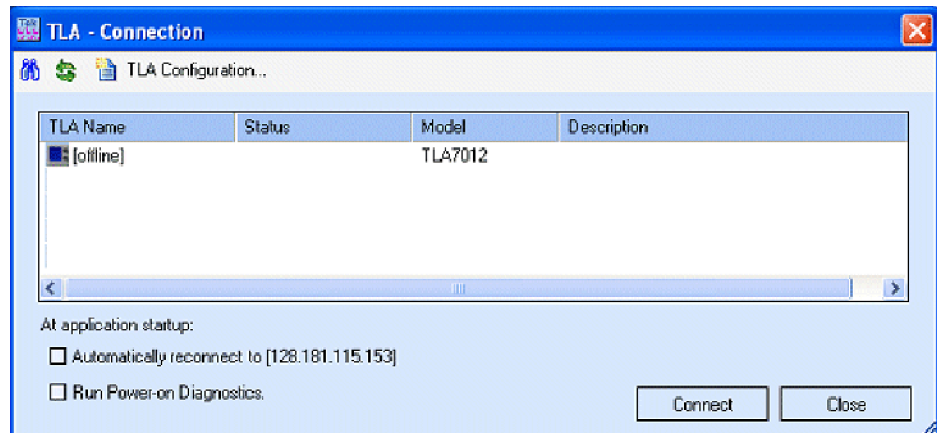

Figure 20: TLA Connection dialog box
8. Start the TLA application by double-clicking the TLA Application icon on the controller. The TLA Connection dialog box appears. (See Figure 20.)